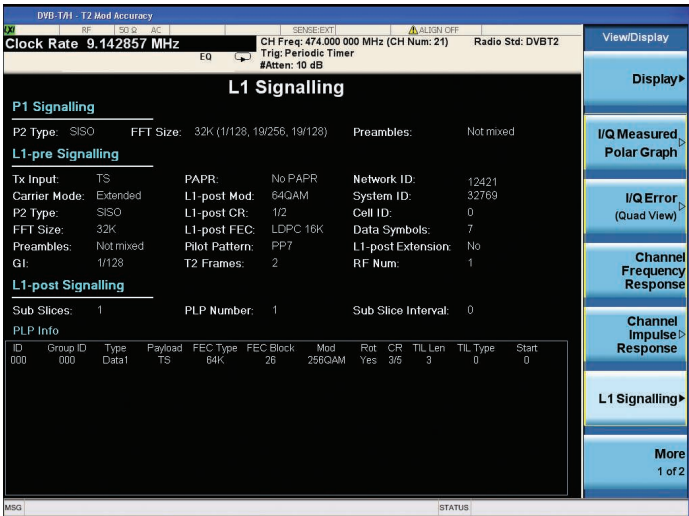

Figure 29. L1 signaling view
- **L1 signaling view** (Figure 29)
View the L1 signaling information (Figure 29)	[View/Display] {L1 Signalling}